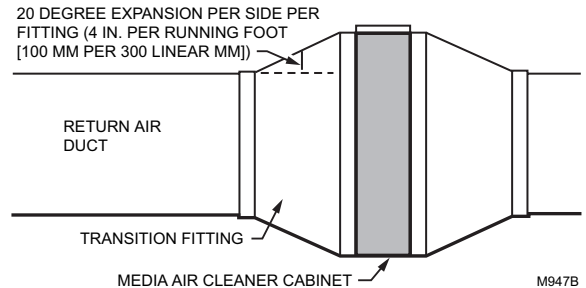

Fig. 12. Duct size changed gradually to prevent turbulence.
1. Use gradual transitions to reduce air turbulence and increase efficiency. See Fig. 12.
Connect the vertical duct section to the elbow. If the vertical drop of the duct is less than 7 in. (178 mm) from the side of the furnace, shorten the horizontal trunk or attach an offset fitting to the elbow. See Fig. 12. When ductwork is properly aligned, connect the vertical duct to the horizontal trunk.